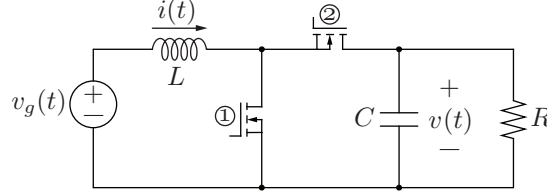

Figure 1: Boost converter for Problems 2 and 3.
2. For a synchronous boost converter in Fig. 1, for unidirectional power transfer (power flows from  $v_g$  to  $R$ ), the MOSFET used for storing energy in  $L$  suffers both switching and conduction loss, whereas the MOSFET used for transferring energy from  $L$  to  $C$  suffers only conduction loss.
Consider the boost converter in Fig. 1. The input voltage is  $v_g(t)$ , and output voltage is  $v(t)$ . Configuration ① has a duty ratio of  $d(t)$ , and ② has a duty ratio of  $d'(t) = 1 - d(t)$ . Each MOSFET has an on-state resistance of  $R_{\text{on}}$  (all other elements are lossless). The states are the capacitor voltage  $v(t)$ , and current  $i(t)$  through the inductor.